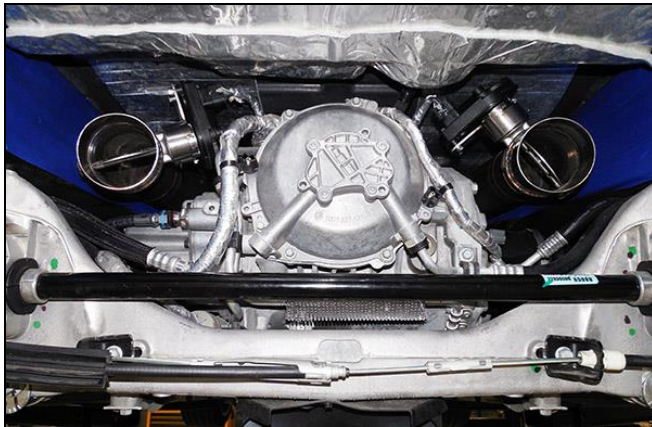

Figure 9
7. Install the left and right over-axle pipes. Install the pipe over the axle and align with the X-pipe. Slide the coupler from the X-pipe on to the over-axle pipe. Adjust the coupler for 50/50 coverage of the two pipes. Tighten the clamps to allow for adjustment (**Figure 9**). **NOTE:** Z06 kits do not use AFM valves – picture for reference only.